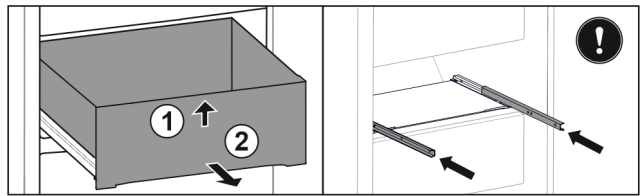

Fig. 113
- ▶ Lift up drawer at the front. Fig. 113 (1)
- ▶ Remove drawer to the front. Fig. 113 (2)